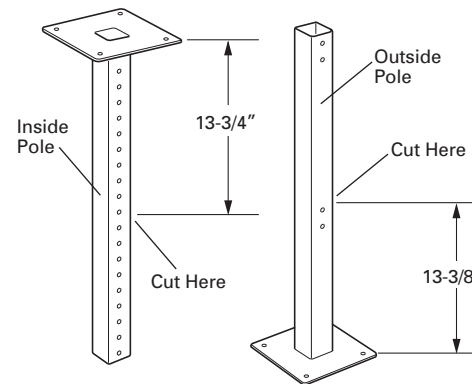

Figure 5
- Cut the Outside Pole to 13-3/8 inches from the end the mounting plate will be attached. Cut the Inside Pole to 13-3/4 inches from the end the mounting plate will be attached. Refer to Figure 5.